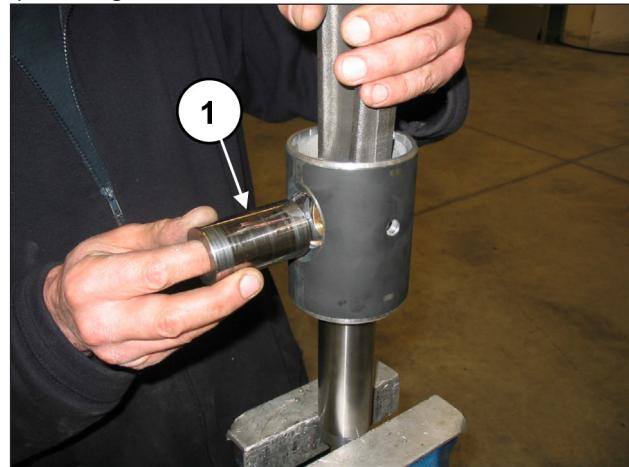
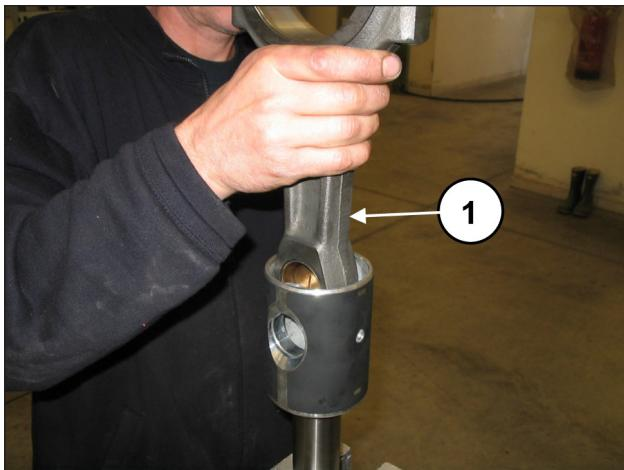

Fig. 44
Fig. 45
Remove the spindle (pos. ①, Fig. 44) and extract the conrod (pos. ①, Fig. 45).
Insert the conrod in the piston guide (pos. ①, Fig. 45) and then insert the spindle (pos. ①, Fig. 44). Fit the two circlips with the circlip pliers (pos. ①, Fig. 43).